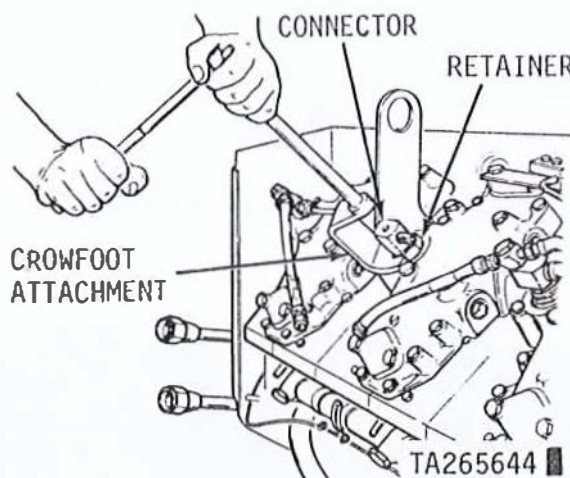

Figure 2-85. Loosening fuel injector nozzle and holder assembly using crowfoot attachment.
(6) Loosen and remove fuel injector nozzle and holder assembly as shown in figure 2-85. Remove and discard flat washer (gasket) (fig. 2-86) and preformed packing.